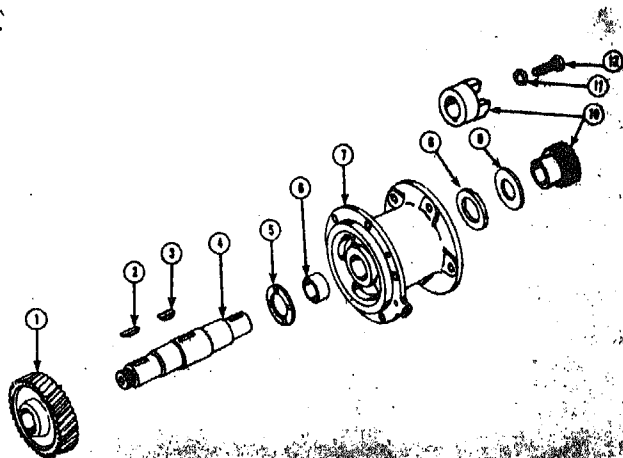
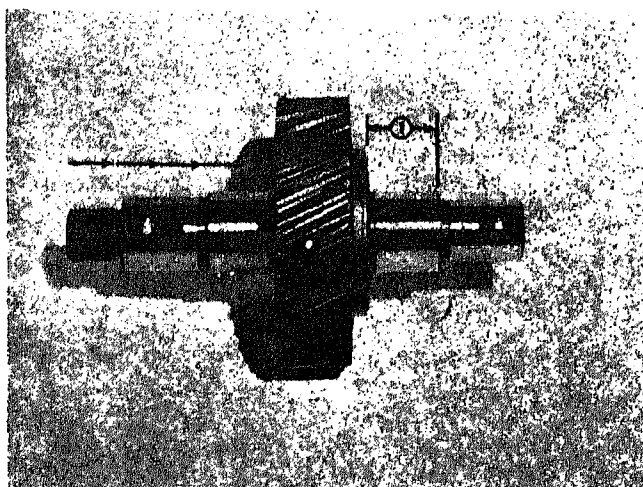

Fig. 9-1-2. Fuel pump drive (IOL)
Fig. 9-1-3. Accessory drive assembly dimension
1. Remove drive shaft cap screw (12, Fig. 9-1-2); using suitable puller, pull coupling (10) from shaft.
**Note:** On IOL engines, remove clamping washer (9, Fig. 9-1-2) and thrust washer (8).
3. Press shaft from gear (1).
4. Remove keys (2, 3) from shaft (4).
1. On IOL engines, inspect bushing (6, Fig. 9-1-2) in drive support (7). Replace if worn larger than 1.322 in. [33.5788 mm] or if more than 0.002 in. [0.0508 mm] out-of-round. New dimensions are 1.314 to 1.319 in. [33.3756 to 33.5026 mm] in diameter. Available for service only are undersize bushings to compensate for wear; 0.010 in. [0.2540 mm] undersize dimensions are 1.304 to 1.309 in. [33.1216 to 33.2486 mm], 0.020 in. [0.5080 mm] undersize dimensions are 1.294 to 1.299 in. [32.8676 to 32.9946 mm].
4. Inspect gear (1) and coupling (10) for chipped, cracked or worn teeth.
5. Check shaft (4) for wear, damaged keyways or damaged threads. New dimensions for the bushing surface of shaft are 1.3115 to 1.312 in. [33.3111 to 33.3248 mm]. Replace if defective or worn smaller than 1.310 in. [33.2740 mm].
1. Install key (3, Fig. 9-1-2) in shaft (4) and press on gear to 1.143 to 1.145 in. [29.0322 to 29.0830 mm] in direction shown by arrows (1, Fig. 9-1-3).
4. Place shaft (4, Fig. 9-1-2) and gear (1) assembly in port (7).
5. Install second thrust washer (8) and flat washer (9) in support.
- Note:** Some drives use Lovejoy-type couplings which are assembled to shaft with capscrew (12).
7. Install capscrew and lockwasher (12, Fig. 9-1-2).
2. Place thrust washer (5, Fig. 9-1-2) on shaft against gear (1) (except EOL).
3. Press bushing (6) in support (7) if removed on IOL engines.